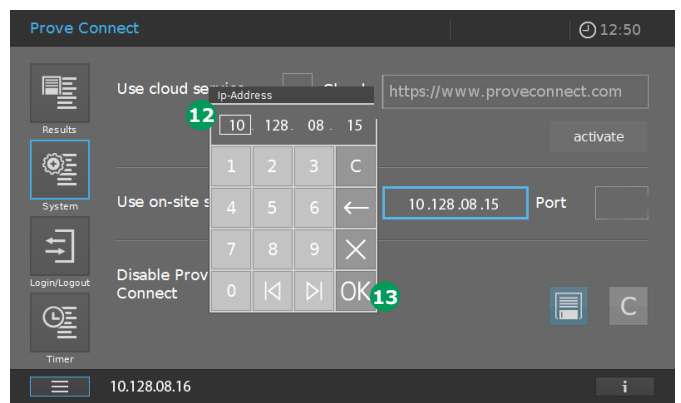

Figure 40 - Screen of Spectroquant® Prove (Figure 37) with entered IP address of the PC on which Prove Connect runs
- Click in the field: IP address (text box with blue border). The entry field appears 12 (Figure 40).
- Confirm the entered IP address with "OK" 13 (Figure 40).